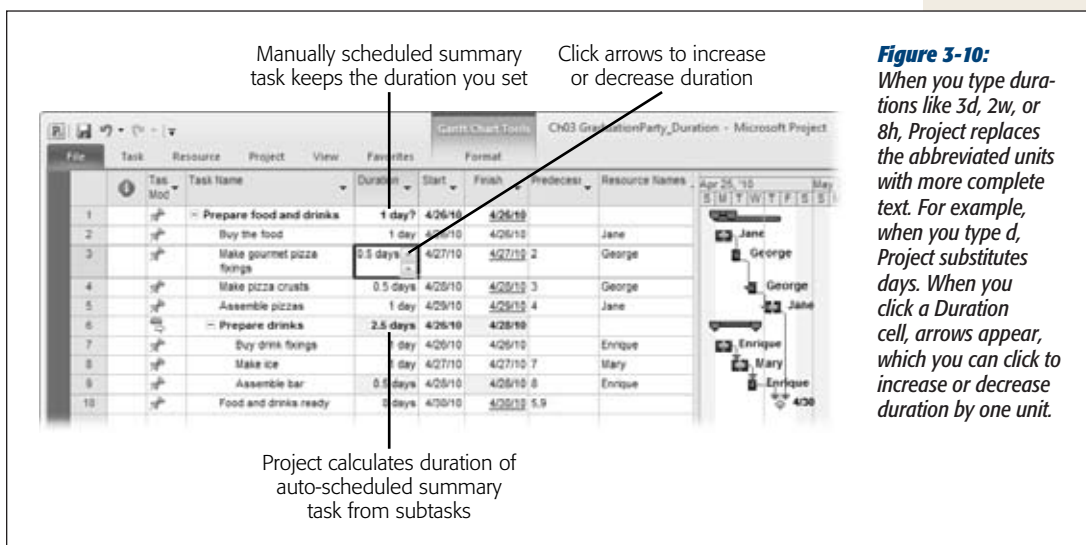

Figure 3-10:
2. Enter the length of time (duration) you or your buddies think it will take to do that step (Figure 3-10).